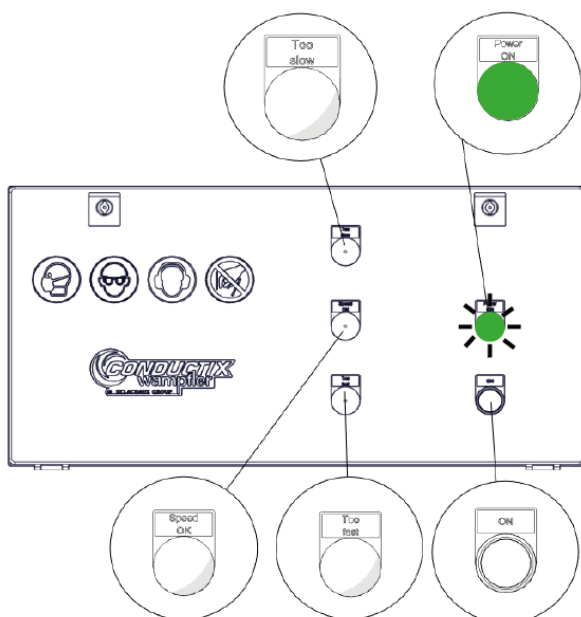

Fig. 31: The “Power Indicator Lamp” is shining
- f. Check if the “Power Indicator Lamp” at the cleaning device is shining (see Fig. 31).